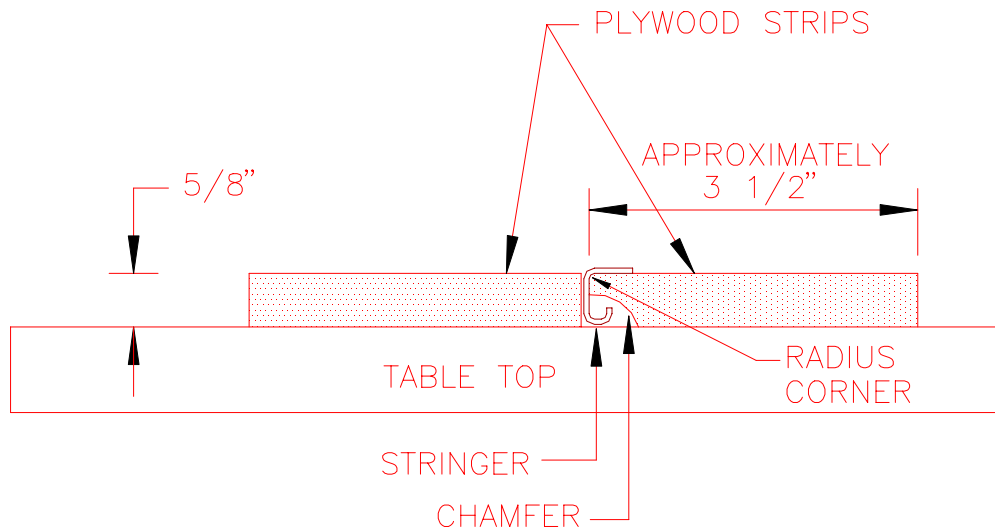

Figure 8.15.1
1) Nail 5/8" plywood strips to the workbench. Chamfer the bottom edge and radius the top edge of one piece. Figure 8.15.1.